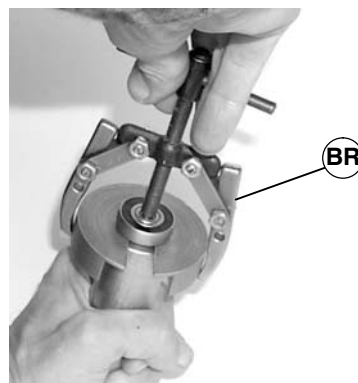

Figure 36
2. Using a puller (BR of Figure 36), remove and discard bearing.